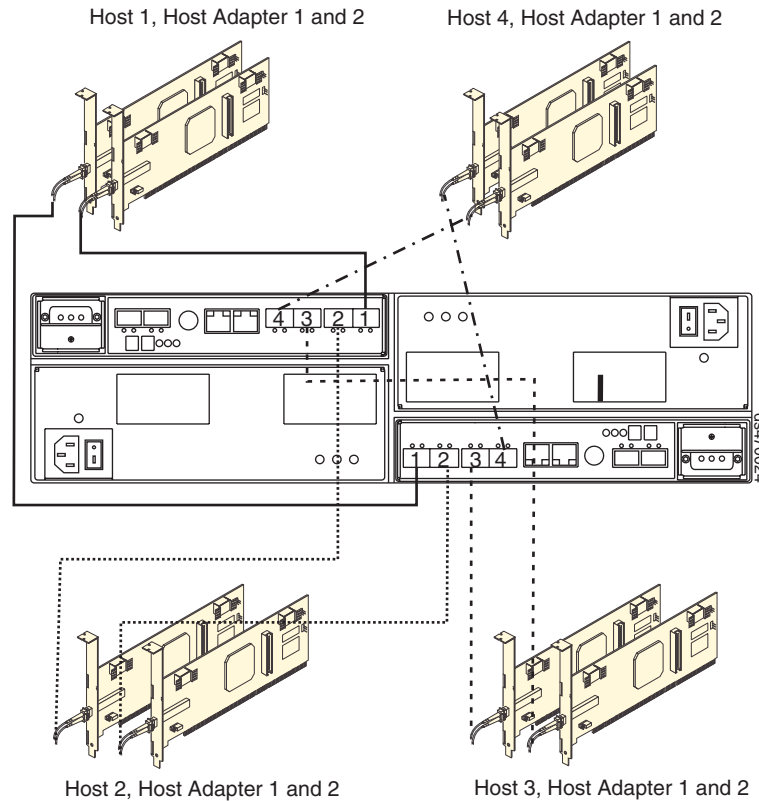

Figure 86. Cabling diagram for four redundant host connections
page 106, or a maximum of four redundant host connections for the DS4700 Express Storage Subsystem model 72, as shown in Figure 86 on page 107.
**Note:** Figure 86 on page 107 shows a connection to a fibre channel host bus adapter in the DS4700 Express Storage Subsystem. You can also connect to fibre channel switch ports (not shown).